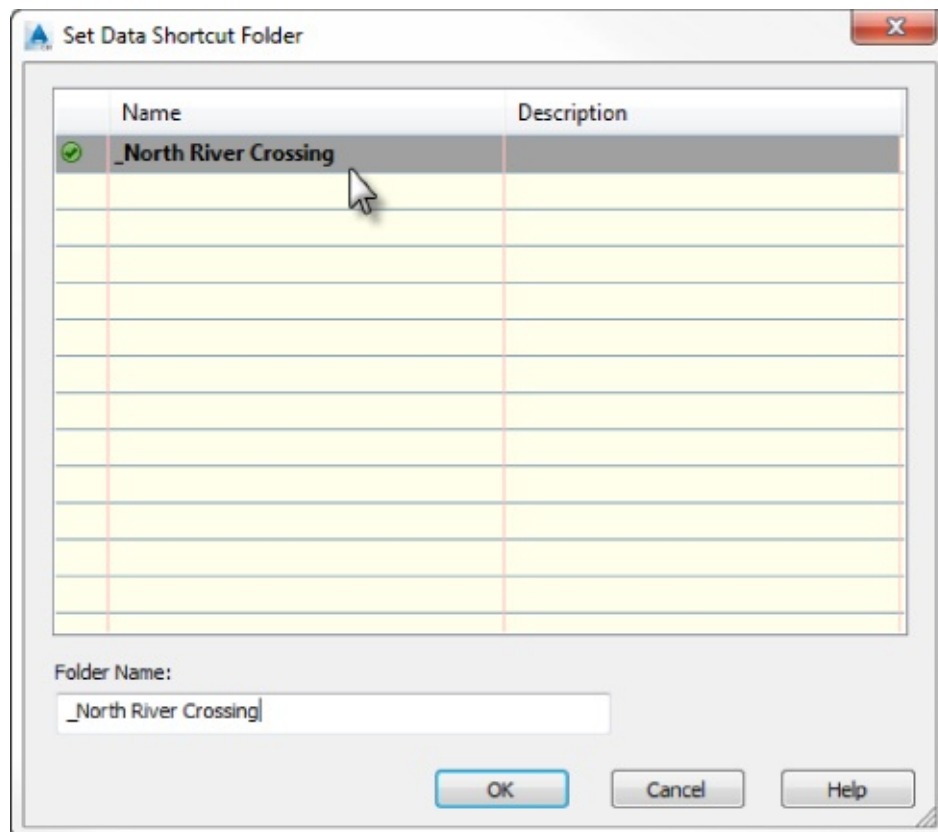

Figure 16.6 Select the folder that contains your manually created _Shortcuts folder in the Set Data Shortcut Folder dialog.
3.  On the Manage tab > Data Shortcuts panel, click Set Shortcuts Folder and select the folder that is displayed in the Set Data Shortcut Folder dialog, as shown in Figure 16.6. This dialog will display only folders that contain a _Shortcuts subfolder.